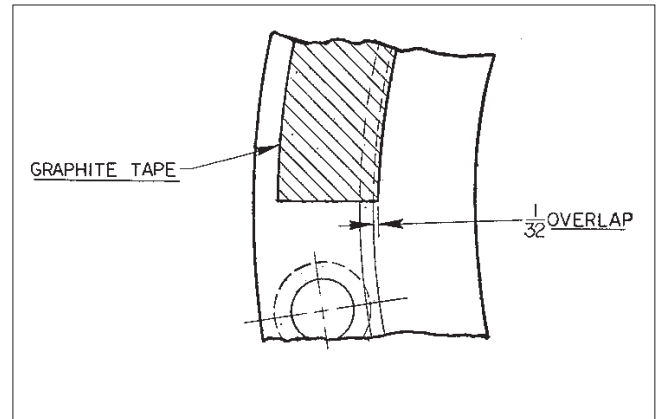

Figure 13.
- d. Apply the tape on the insert, adhesive side to insert bottom, overlapping on the I.D. approximately 1/32" (Fig. 13). Do not peel backing more than 3 to 6 inches (handling will be difficult). Do not start tape over an insert screw hole.